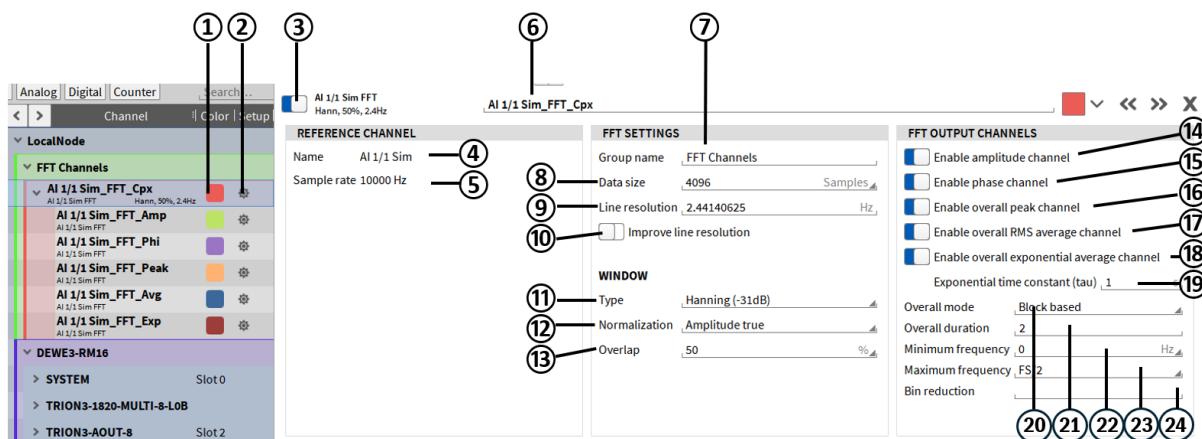

Fig. 7.89: Complex FFT channel setup - overview
- This channel is not calculated automatically but must be selected manually in the Channel Setup of the complex spectrum Channel *Channel\_Name\_Cpx* after creating the FFT channel (see ⑭ in Fig. 7.89).